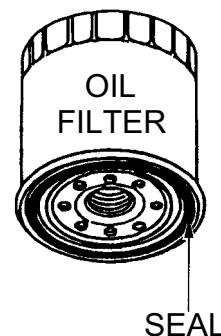

Figure 17. Oil Filter
1. Replace the engine oil filter (Figure 17) every 200 hours.